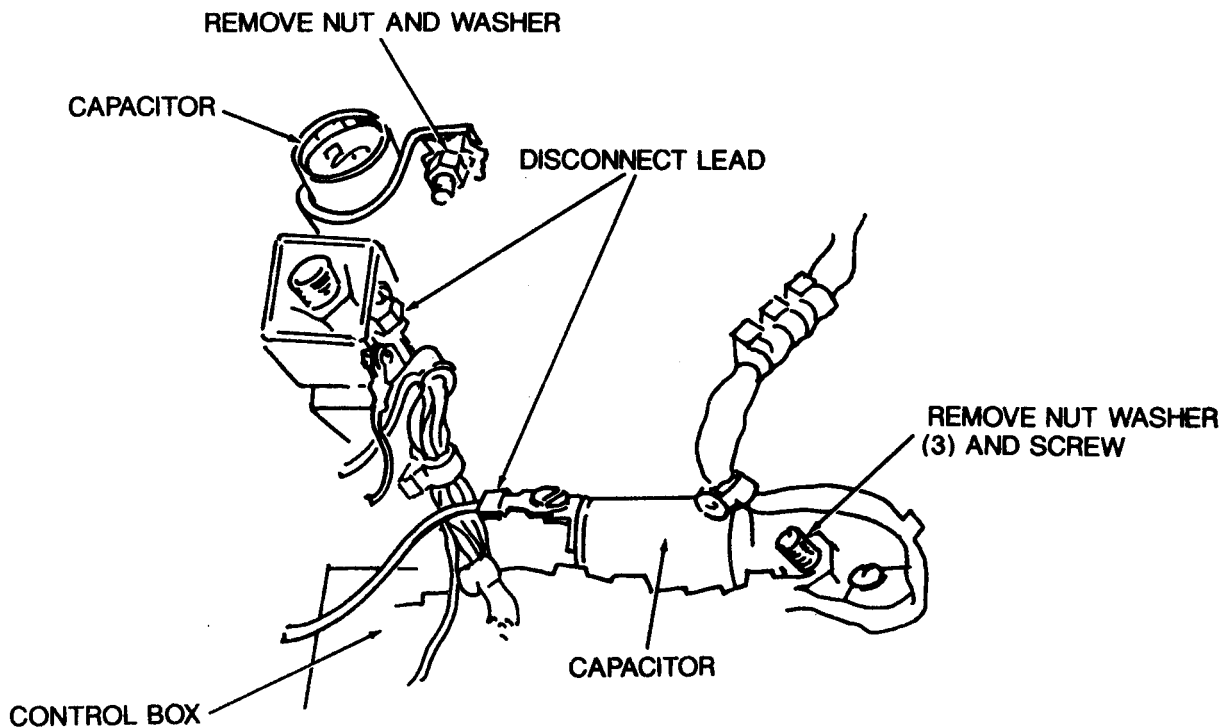

Figure 8-3. Radio interference suppression components, removal and installation (AC Unit).
(1) *AC Unit.* The control box of the AC unit is equipped with two capacitors that are provided for interference suppression. They are rated at 0.1 MFD, 500 V, AC/DC. These capacitors are shown by figure 8-3.
(1) *AC Unit.* For replacement of interference suppression components on the AC unit, refer to figure 8-3.